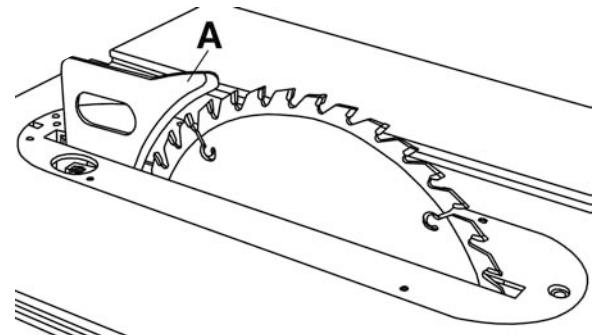

FIGURE 14
**Non through-cut operations-** For non through-cut operations with a 10" blade, the riving knife (A) Fig.14 must be installed.
The riving knife gets installed the same way as the blade guard splitter, see instructions above. For safety reasons, the highest point of the riving knife (A) Fig.14 should never exceed the highest point of the blade teeth, generally 1/8" to 3/16" (1-5mm). See adjustments for more information.